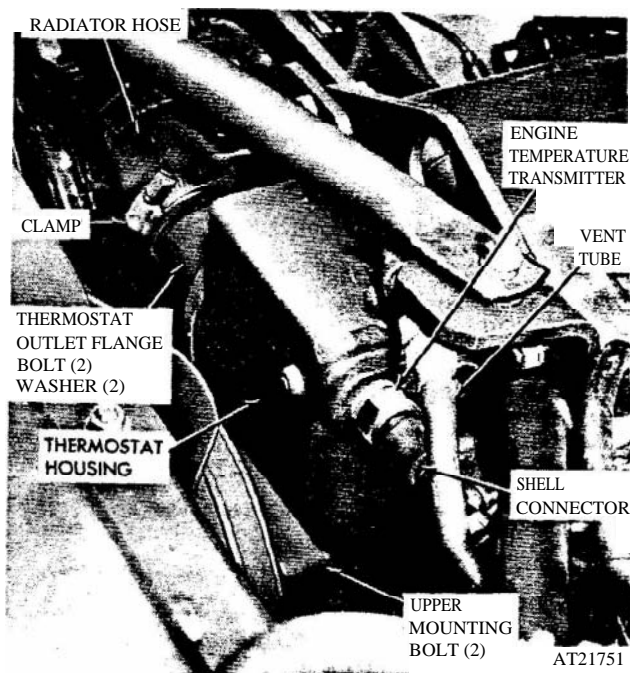

Figure 2-99. Thermostat housing.
(1) Open and secure engine cover (refer to TM 9-2320-242-101).
(2) Partially drain coolant to a level below thermostat housing (refer to para 2-70c).
(3) Remove thermostat outlet flange by removing two bolts, lock washers, and washers. Pull flange and radiator hose away from thermostat housing (fig 2-99).
(4) Remove radiator hose from outlet flange by loosening clamp and remove thermostat.
(1) Clean gasket mating surfaces.
(2) Insert thermostat in housing, attach gasket and outlet flange to thermostat housing, secure with two bolts, lock washers, and washers (fig. 2-99).